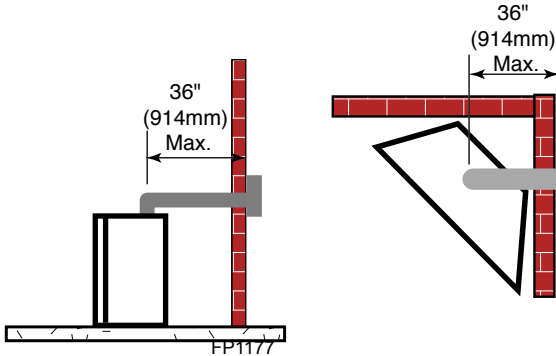

Figure 28 -
- If a 90° elbow is fitted directly on top of the fireplace flange the maximum horizontal vent run before the termination or a vertical rise is 36" (914 mm). Figure 28